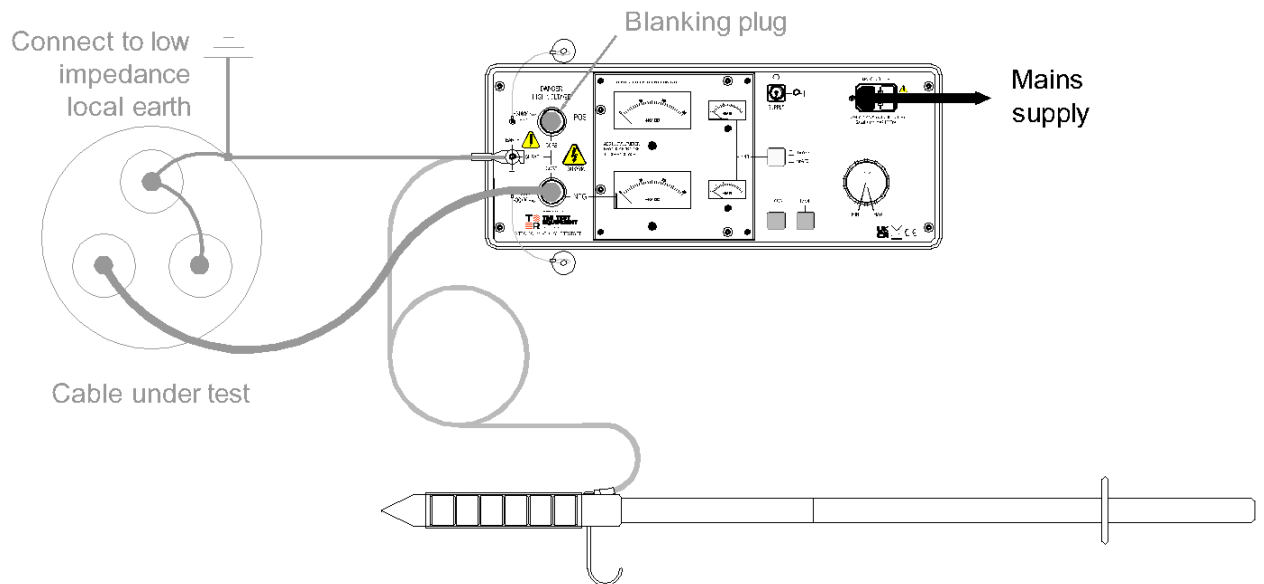

Figure 3 Connections for negative unipolar test
- For a unipolar test connect the black/negative HV lead to the negative output socket on the PT30-10 and the test object. The positive output must be blanked off using the plastic blanking plug provided (not the metal dust cap). It is also possible to carry out a positive unipolar test, as shown in figure 3, although it is more common to use a negative test as this is more onerous.